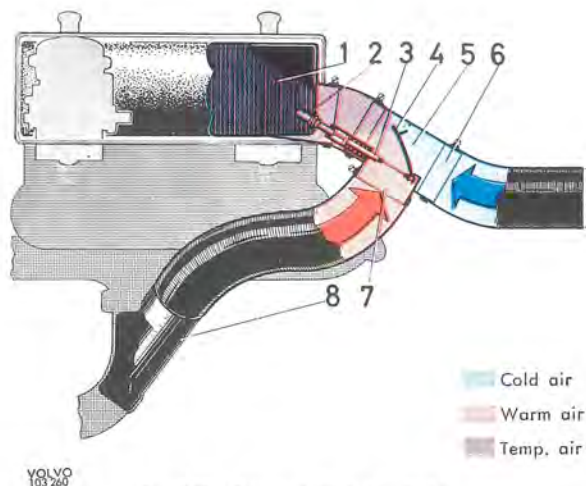

Fig. 2-70. Constant air temp. device
The engine is fitted with a constant air temp. device, see Fig. 2-70. (Not, however, on vehicles with right-hand drive.) This device consists of a flap housing (5), a hose (6) for cold air and a heat-resistant hose (7) for warm air as well as a heater plate (8), which is secured to the exhaust pipe. The thermostat (2), fitted in the flap housing, is inserted in the air cleaner housing and regulates the flap (4) by means of the flap control (3). The warm air taken at the exhaust pipe and the cold air taken at the front of the ve-